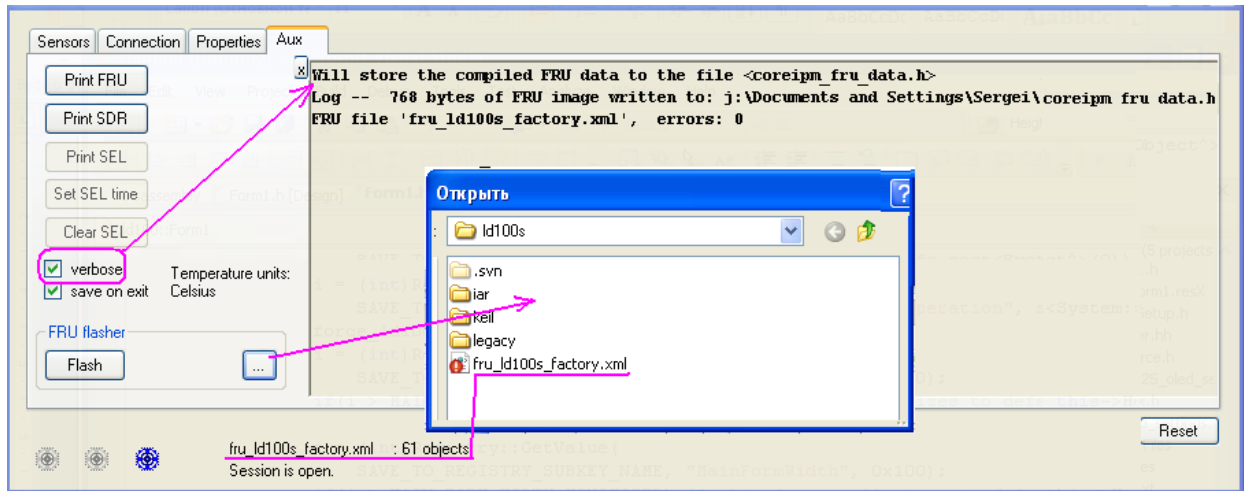

Fig.10 FRU flashing controls.
- “Flash” button (Fig.10) is disabled by default, it is enabled after the file is read, no errors, and if the Platform supports flashing (discovered Manufacturer=coreIPM).